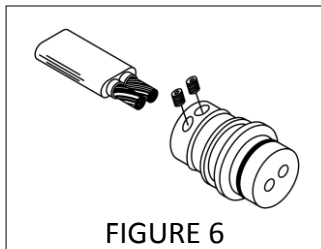

FIGURE 6
- 2.8 Insert the wire leads into Plug (Cable Adapter) connectors and use a 5/64" Allen Wrench to tighten the set screws (Fig. 6). Either wire can go into either plug hole. Pump performance will be the same.